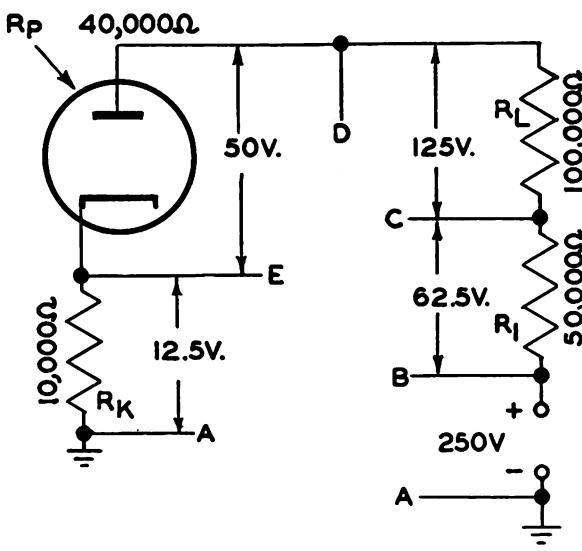

Figure 46. Voltage measurements functional schematic.
(3) Figure 46 shows another illustration of a plate-cathode circuit (series circuit). The total resistance is 200,000 ohms, and the applied voltage is 250 volts. The current through this circuit is 0.00125 amperes. This circuit can be solved for voltage drops by the same procedure as was used in the previous examples, with only the number and values of the resistance differing.
d. *Bias Circuits.* (1) The normal operation of the most vacuum tube circuits requires the application of a steady d-c voltage of proper value on the grid element of the tube. This voltage is called a bias voltage, or grid bias voltage, and is always considered in